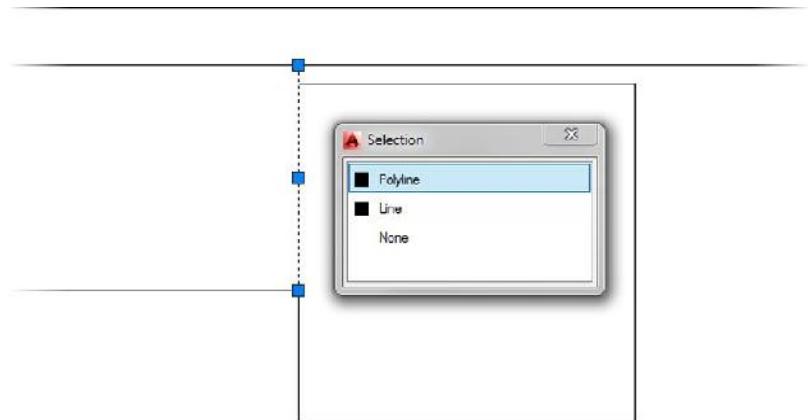

FIGURE 5.57: Using Selection Cycling to select the right edge of the counter
5. At the **Select object to offset:** prompt, select the right edge of the counter. Because you enabled Selection Cycling in step 3, and both the right edge of the counter and left edge of the refrigerator coincide with one another, the Selection dialog box is displayed (see Figure 5.57).
6. Select the **Line** option from the Selection dialog box, and complete the **OFFSET** command by picking a point to the left of the selected line. Notice how the object highlighted in the Selection dialog box is also highlighted (with dashes) inside the drawing (see Figure 5.57).